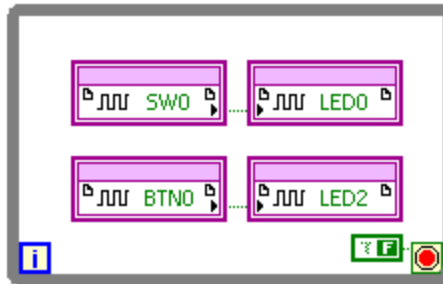

Figure 3-2. Block Diagram
9. In the **Project Explorer** window FPGA Target (Board1, DE FPGA Board) tree view, select **SW0** and **LED0** and drag them onto the block diagram as shown in Figure 3-2.